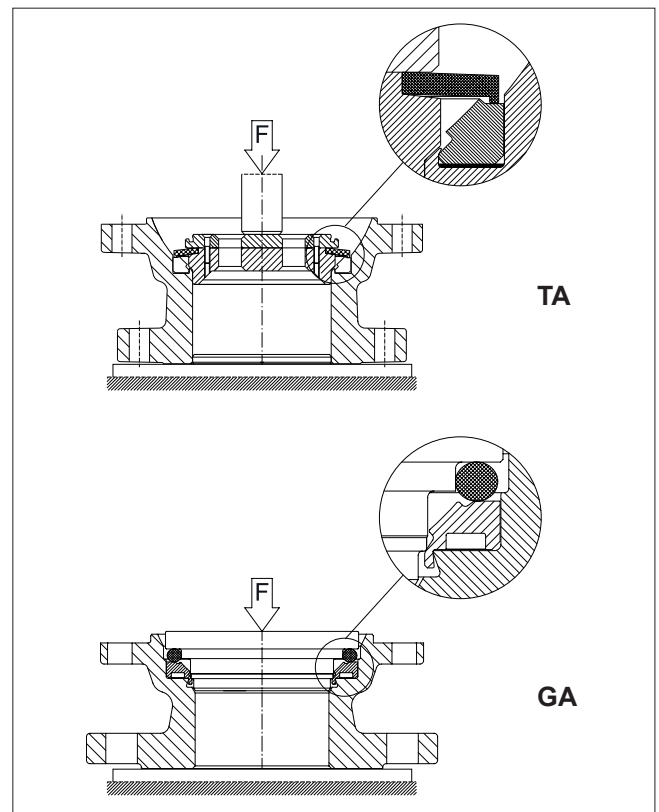

Fig. 26 Locking of the seat
- Mount the locking tool carefully over the seat, see Fig. 26.